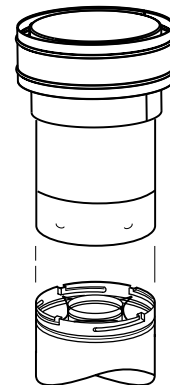

Figure 31
K. Install the vertical termination - The final step involves installation of the SV4.5CGV-1 Vertical Termination. Extend the vent sections to the height as shown in the "Vertical vent termination section" on page 4. The SV4.5CGV-1 Vertical Termination (Figure 31) can be installed in the exact same fashion as any other Secure Vent section. Align the termination over the end of the previously installed section, adjusting the radial alignment until the four locking dimples of the termination are aligned with the inlets of the four incline channels of the last vent section. Push the termination down until it fully engages, then twist the termination clockwise running the dimples down and along the incline channels until they are seated at the end of the channels.